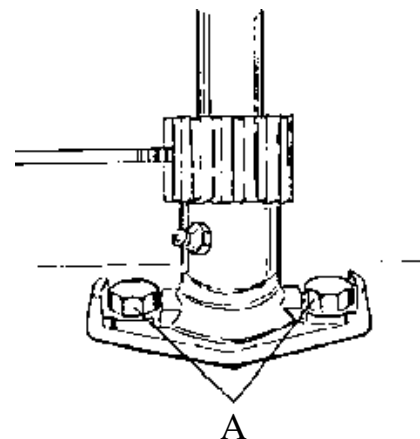

Figure 6.3 Steering pivot block
1. Loosen the two nuts under the chassis securing the steering shaft pivot block bolts (A). Figure 6.3